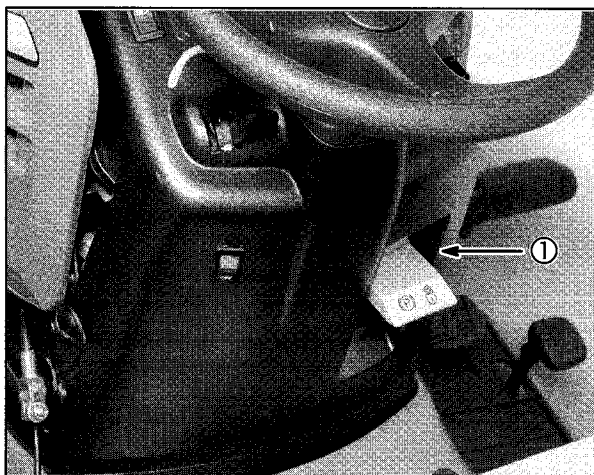

Fig. 33
The PowerLink™ system will not function unless the parking brake on the tractor is ENGAGED (1), **Fig. 33**, and the PTO on the tractor is OFF. The PowerLink™ system will shut down if there is a system or temperature overload, or if there is a ground fault.